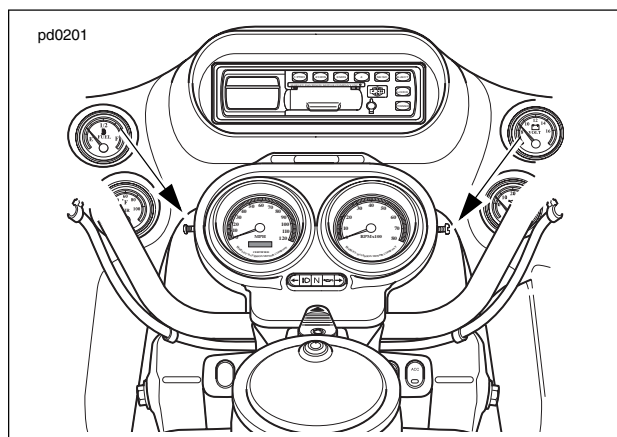

Figure 1-14. FLTR Models-Instrument Bezel Screws
1. See Figure 1-14. Remove two T25 TORX screws at sides of instrument bezel.